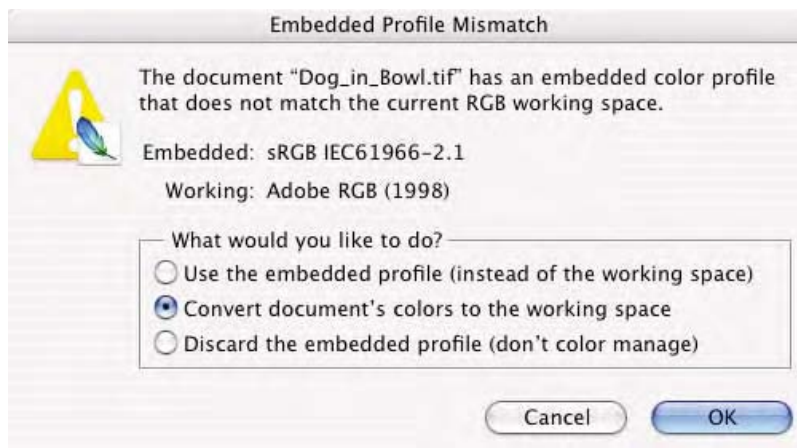

Fig. 9-5-4 The **Embedded Profile Mismatch** dialog with the default radio button set to **Convert** document's color to the working space.
1. If the **Dog_in_Bowl.tif** document is open, you can close it. Now reopen this document again. Photoshop's **File-Open Recent** menu is a useful way to recall frequently opened documents. Once more, the **Embedded Profile Mismatch** dialog appears. Notice however that in Fig. 9-5-4, the radio button is now set on **Convert document's colors to the working space**. The